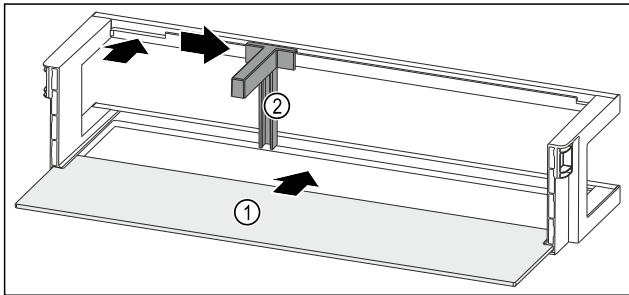

Fig. 53 Door rack with shelf
- ▶ Push the shelf Fig. 53 (1) into the side recesses.
- ▶ Insert the bottle holder Fig. 53 (2) in the recess.
- ▶ Push the bottle holder Fig. 53 (2) to the desired position to the side.